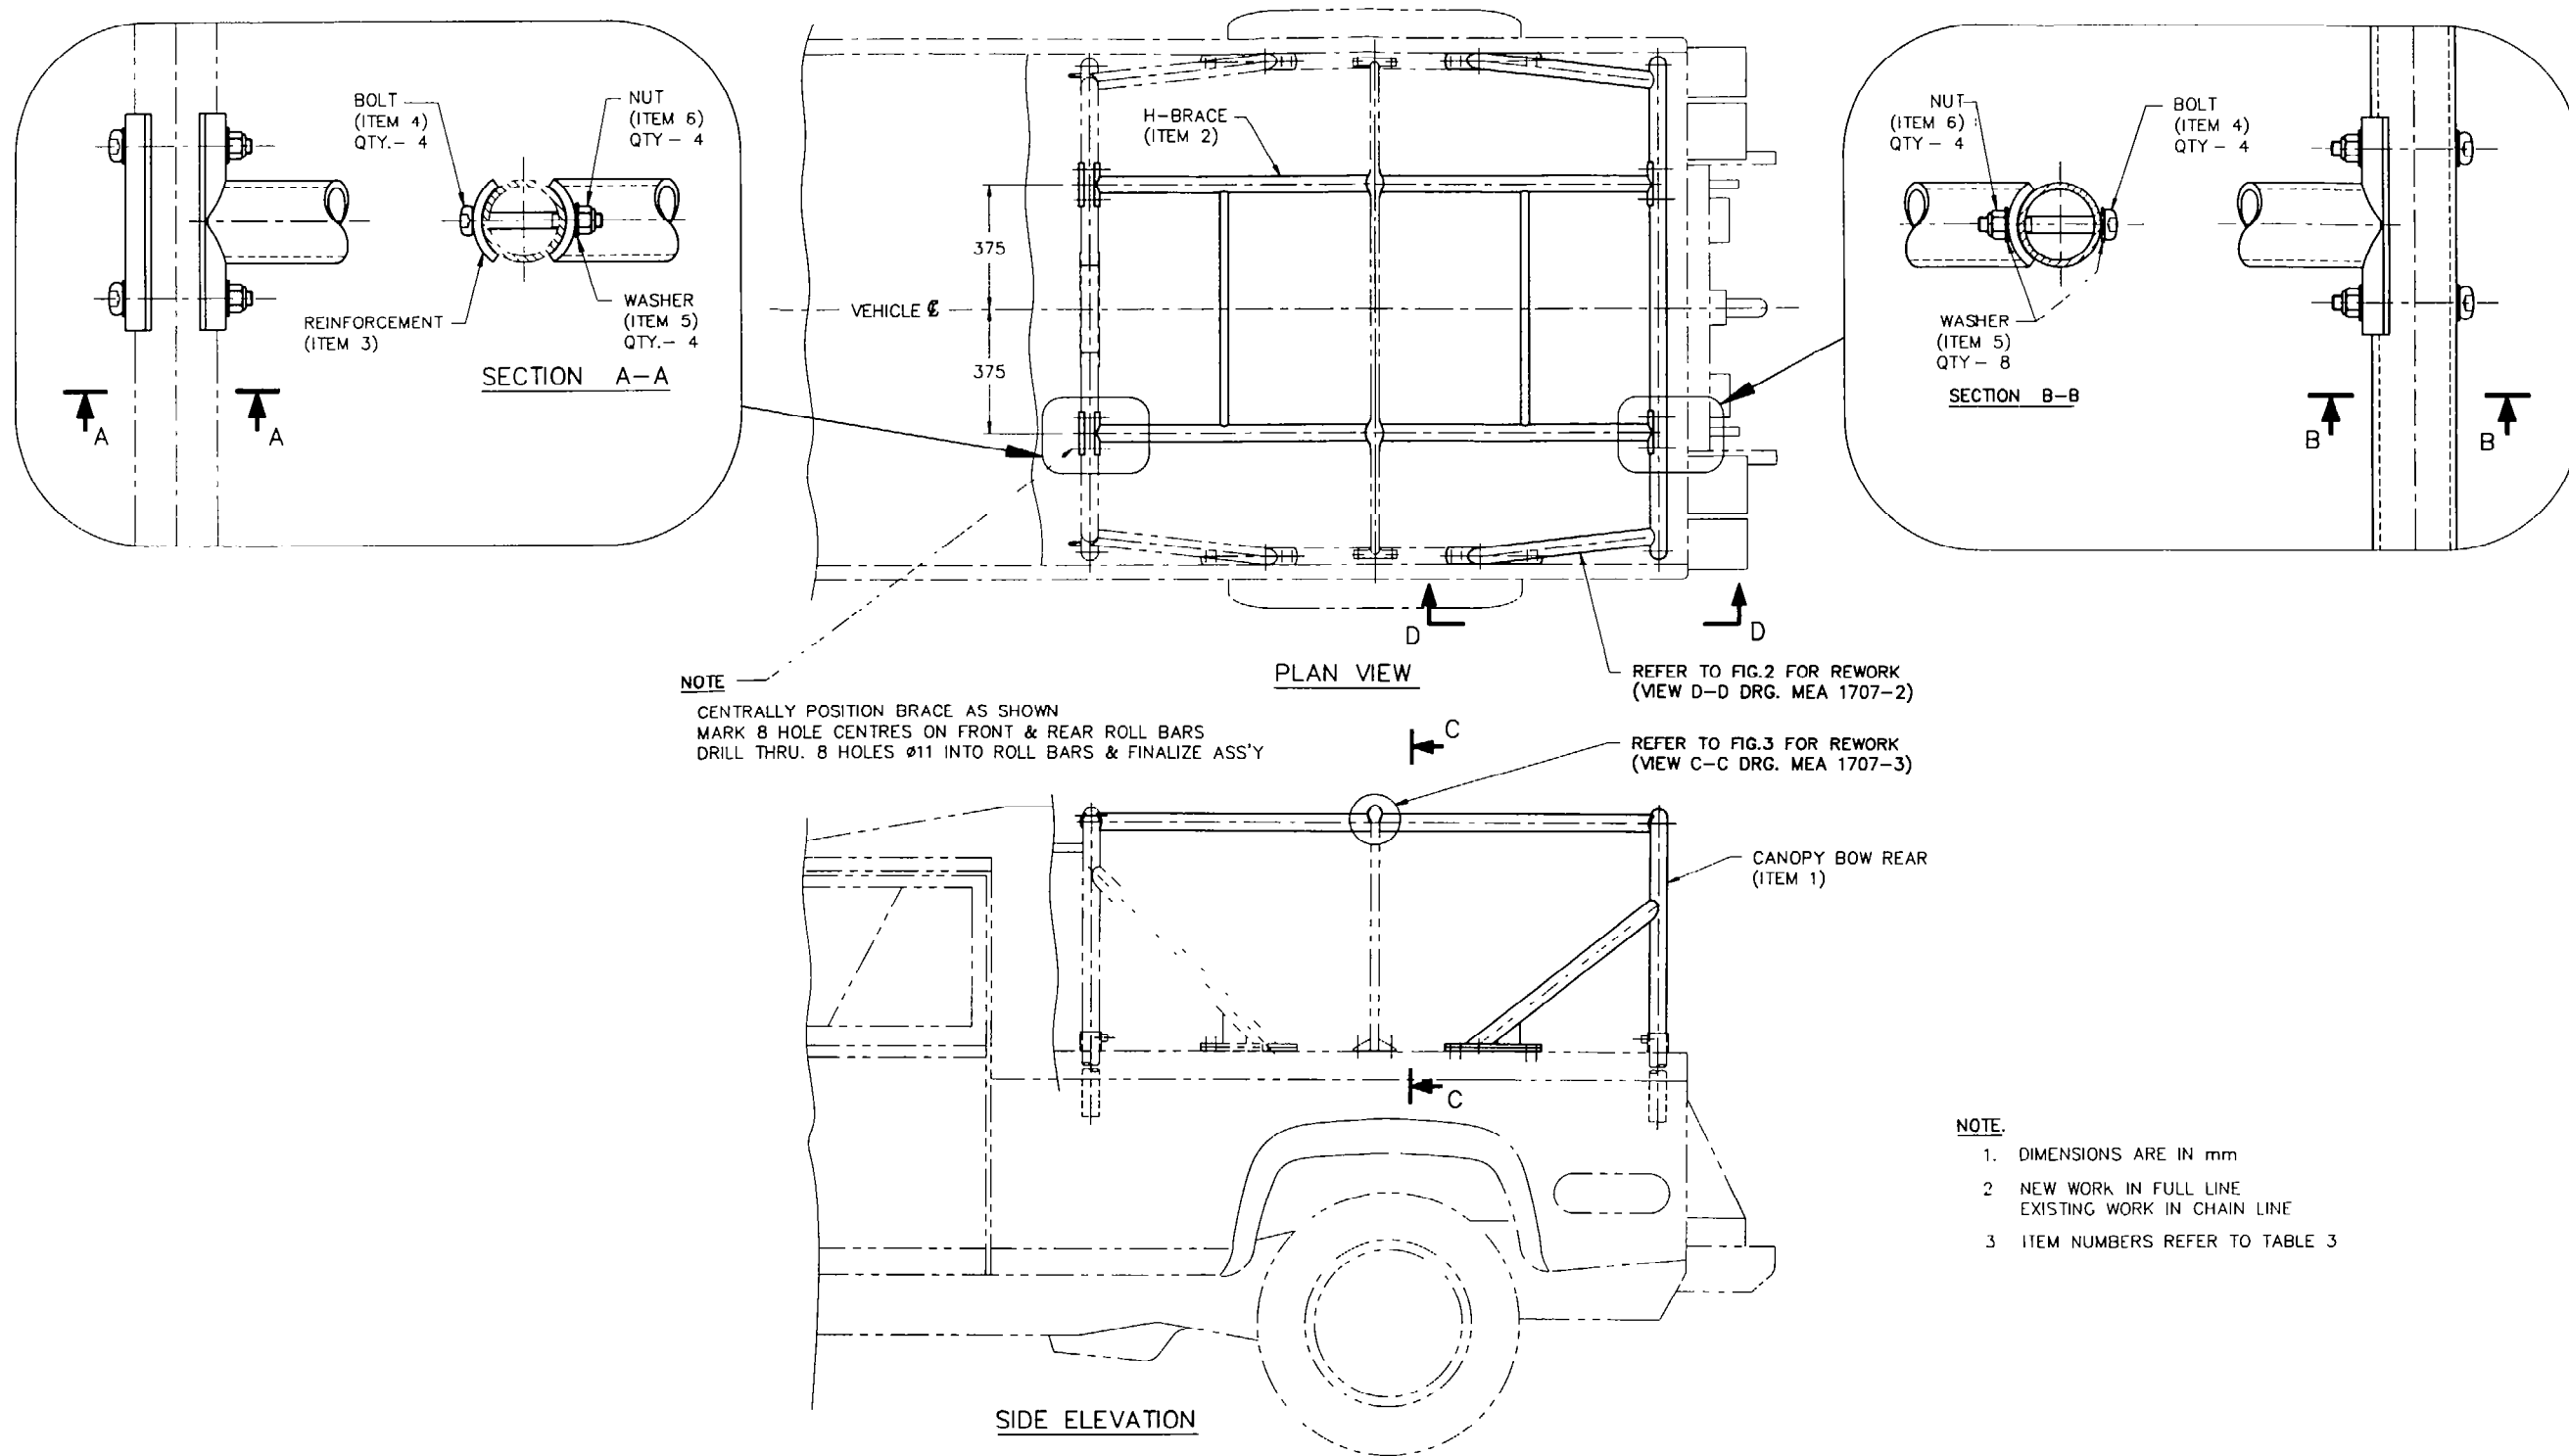

Figure 1 - Fitting of H Frame
13. Proceed as follows with reference to Figure 1 for assembly detail and Table 3 for part descriptions:
- a. Fit the new rear canopy bow (item 1) and mark the centre line of the vehicle on the front ROPS roll bar and rear canopy bow.
- b. Fit the 'H' frame (item 2) between the front ROPS and rear canopy bow so that the frame is symmetrical about the centre line of the vehicle and clamp the frame in position with G clamps.